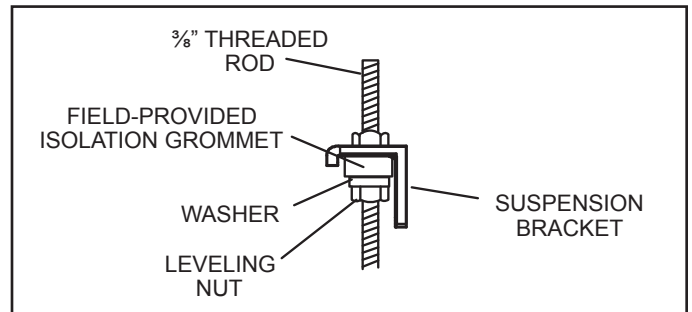

Figure 4. Isolation Grommet
- Install a field-provided isolation grommet as shown in Figure 4 to prevent transmission of vibration from unit to structural ceiling.
5. It is recommended to install a field-provided isolation grommet as shown in Figure 4 to prevent transmission of vibration from unit to structural ceiling.